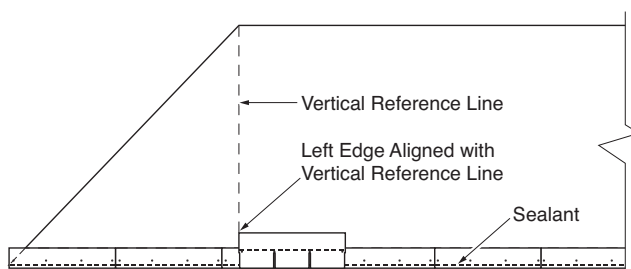

Figure 9-2: Installing the first shingle of the first course with the left edge aligned with the vertical reference line
1. Install the first shingle of the first course with the left edge aligned with the vertical reference line (see Figure 9-2).
3. Install starter strips as directed in the application instructions for the shingle being applied. Overlap the vertical reference line by the measured half tab-length portion of the shingle instead of cutting it off. The starter strip should extend the entire length of the eaves (*Figure 9-2*).